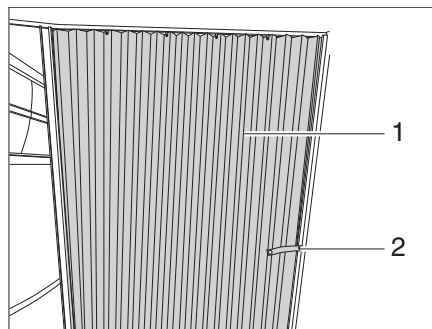

Fig. 86 Folding door
- Release the securing strap (Bild 86,2).
- Pull the folding door (Bild 86,1) into the closing position.
- Push the folding door (Bild 86,1) into the open position.
- Secure the folding door with the securing strap (Bild 86,2).